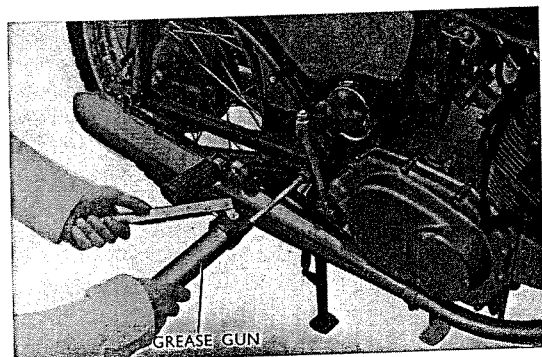

Fig. 4.65 Inserting grease
9. Insert grease in the grease fitting. (Refer to Fig. 4.65)